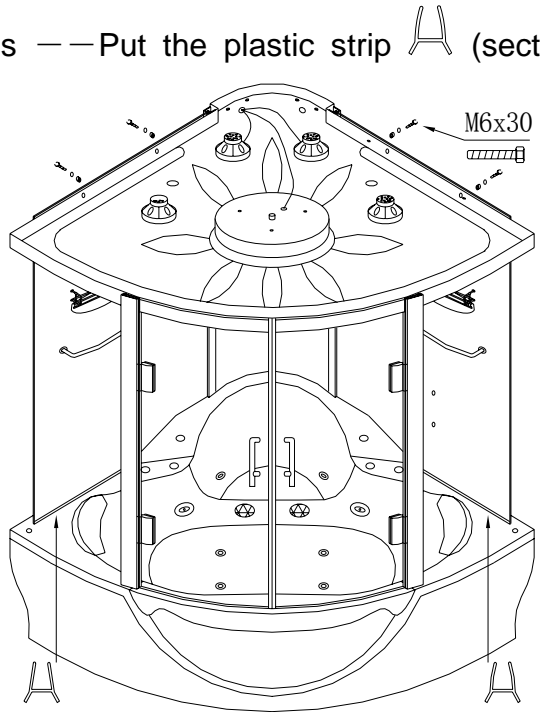

Fig.8
5. Install the glass — Put the plastic strip  (section drawing) under the bottom of the left and right glass separately, carry to the bathtub, insert into the trough of the two side aluminium material, and using two screws to connect the glass with the coping, but don't screw down. As the Fig.8, (For the coping's gravity, the bolt of the glass is not face to face, you can use the hand to bump, then it will be installed.)